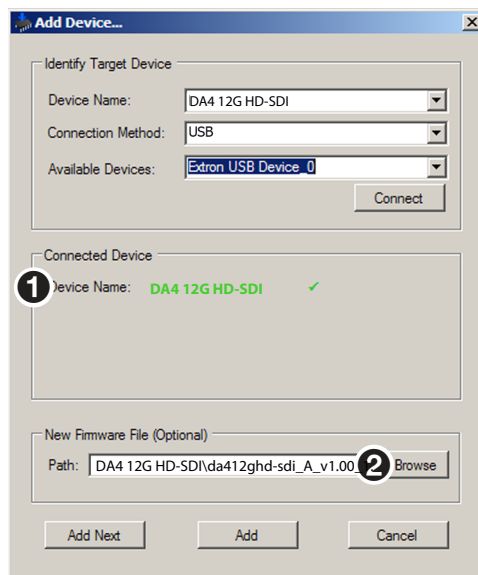

Figure 20. Add Device Window Browse for Firmware
8. Click **Connect**. If the connection is successful, the unit name is displayed in green in the **Connected Device** section, followed by a green check mark (see figure 20, ①).